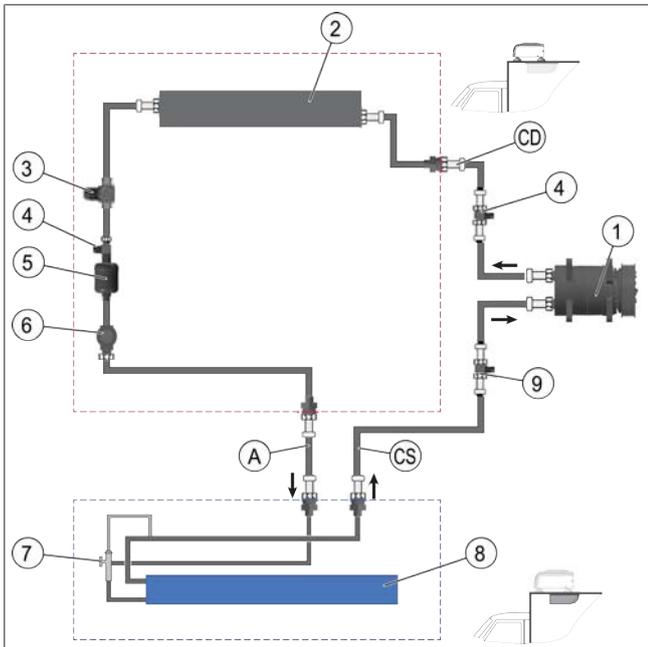
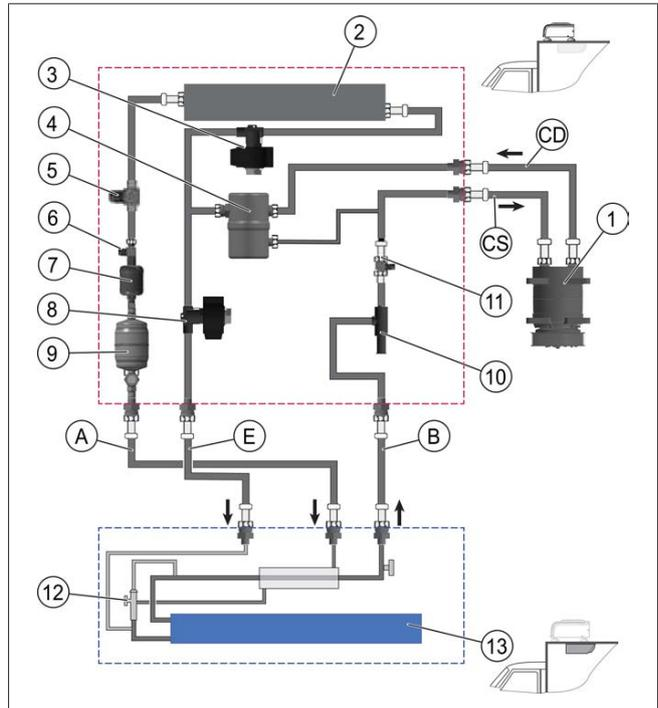

Fig. 13 Diagram Frigo Top 24 RT-D R134a
Fig. 14 Diagram Frigo Top 24 RT-DG R452A
1. Install the hoses according to Fig. 13 or Fig. 14.